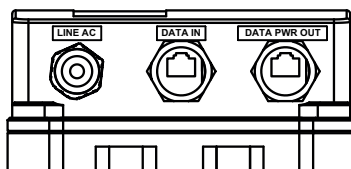

Fig 2
4. Attach the Ethernet cable to DATA IN. See Fig 2.